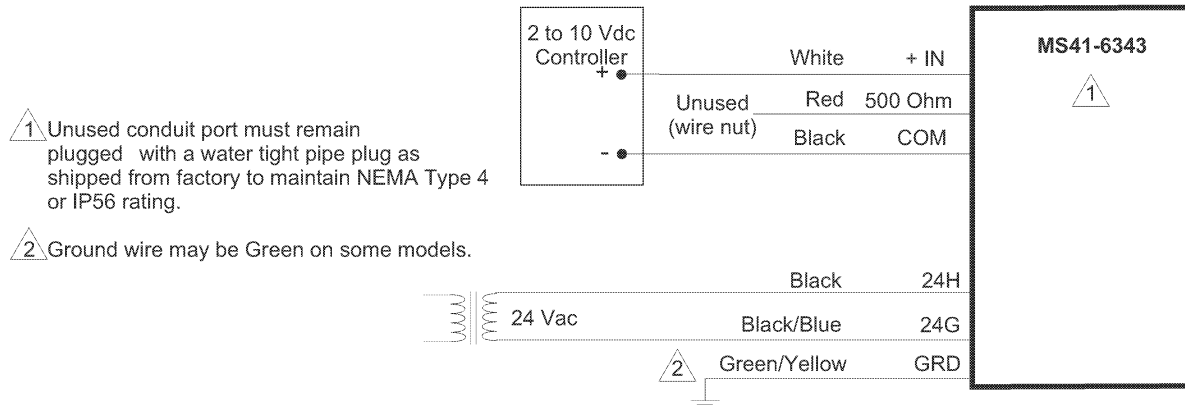

Figure-1 Typical Wiring Diagram for 2 to 10 Vdc Controller with a 24 Vac Actuator.
**Control Signal:** 4 to 20 mAdc or 2 to 10 Vdc. See Figure-1 through Figure-8.